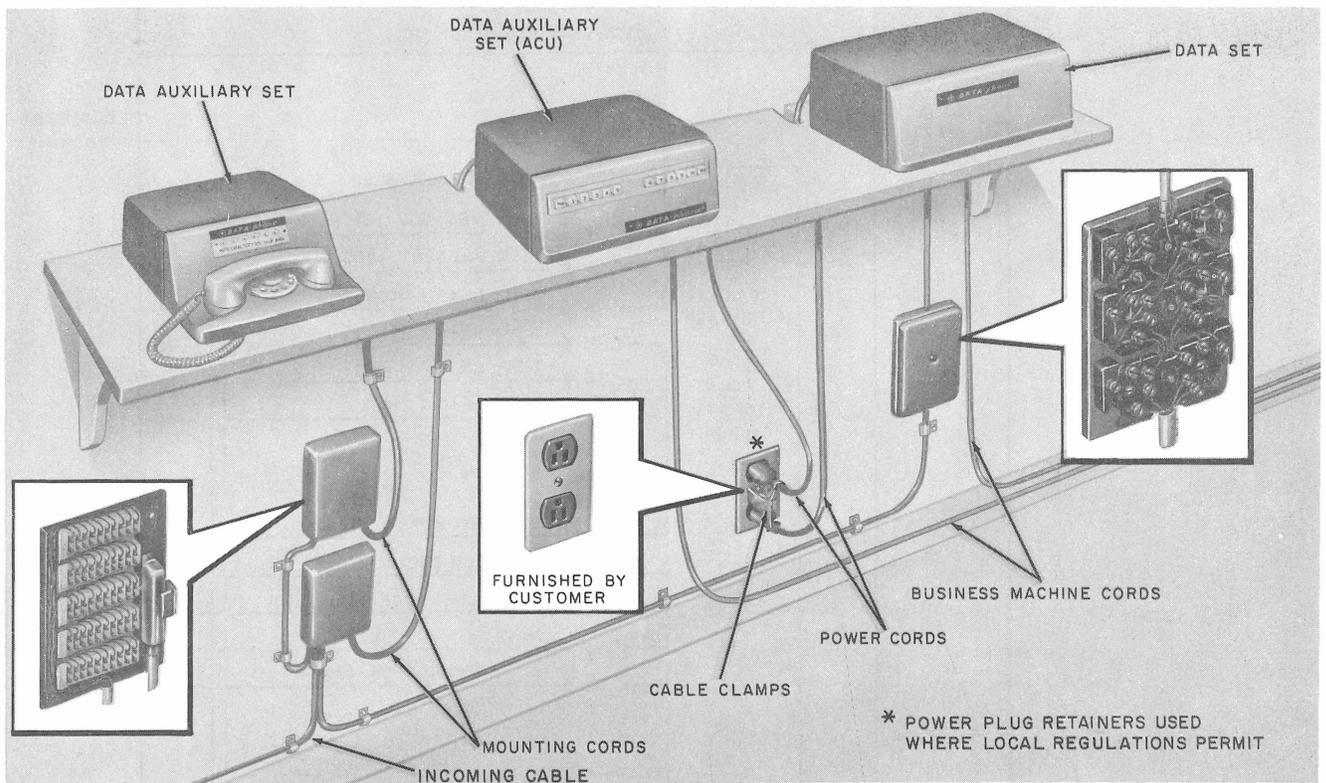

Fig. 2—Main Components of a Typical Installation Using a Single ACU With an Associated Data Auxiliary Set and a Data Set
3.01 The ACU is connected directly to the telephone line, the data set, and the business machine. A typical installation showing the connections and the conductor designations is shown in Fig. 2 and 3. Since the ACU is connected across the telephone line, it can call the requested number and transfer the line to the data set. The 801A6 will verify that a connection has been established before it transfers control of the line to the data set.